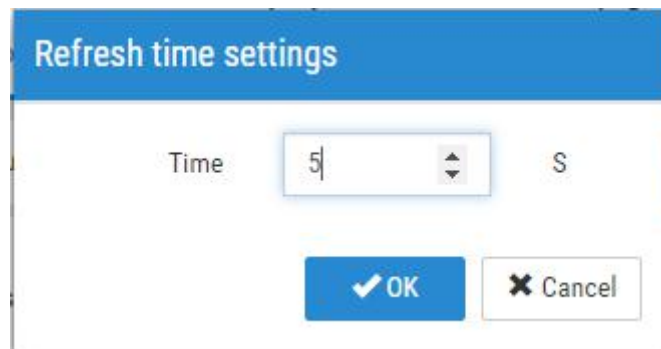

Fig. 4.6-7 The "Refresh time settings" dialog
(2) After click the "Setting" button in the "Global Settings" subtab page, the "Refresh time settings" dialog will pop up, as shown in Fig. 4.6-7. The refresh time by default is 10 seconds, and you can modify it in the "Refresh time settings" dialog. After you modify the refresh time, you need to click the "OK" button to confirm.